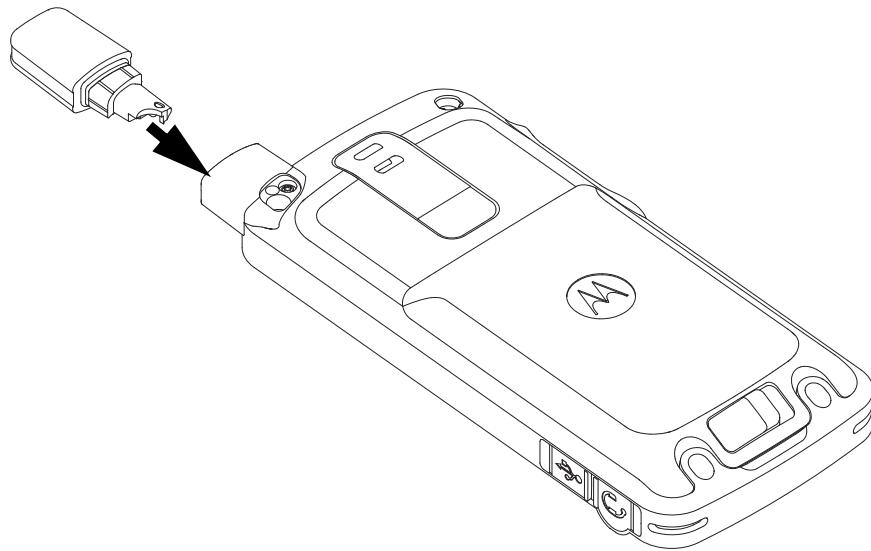

Figure 5-33. Antenna reassembly
7. Attach the antenna to the radio as shown in Figure 5-33.